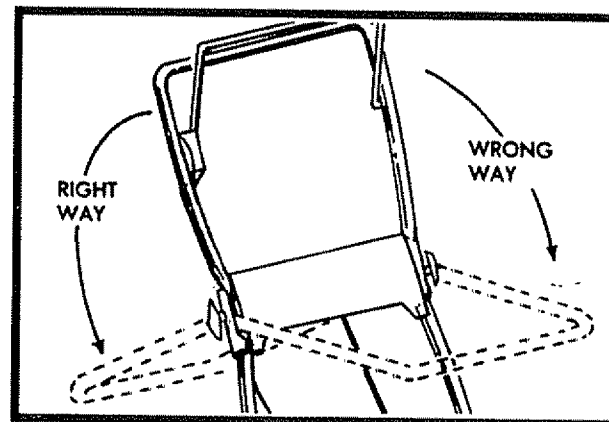

FIG. 11
- To fold, squeeze the bottom ends of the lower handle toward each other until the lower handle clears the handle bracket, then move handle forward (See Fig. 11).